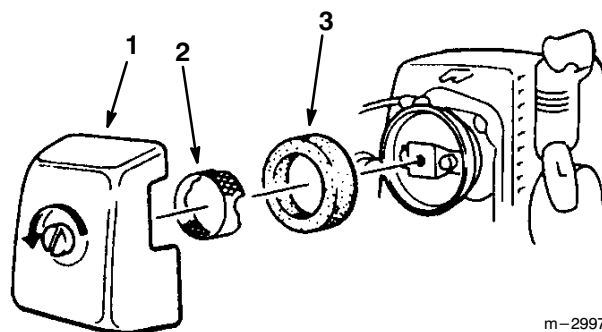

Figure 31
1. With the engine at ambient (room) temperature, loosen the knob and remove the air cleaner cover (Fig. 31).
2. Loosen the knob and lift off the cylinder cover (Fig. 31).
9. Reinstall the cylinder and air cleaner covers (Fig. 31).